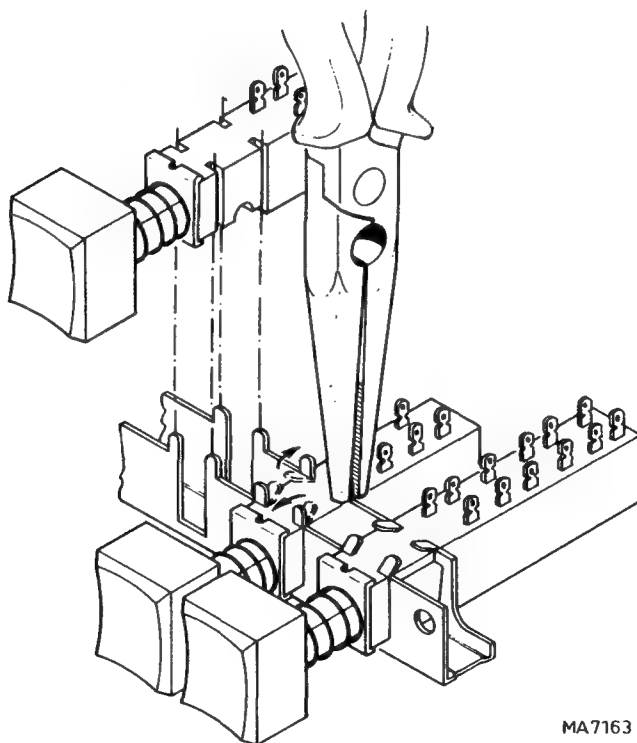

Fig. 3.26. Replacing a push-button switch
- Straighten the 4 retaining plugs of the relevant switches as shown in Fig. 3.26.